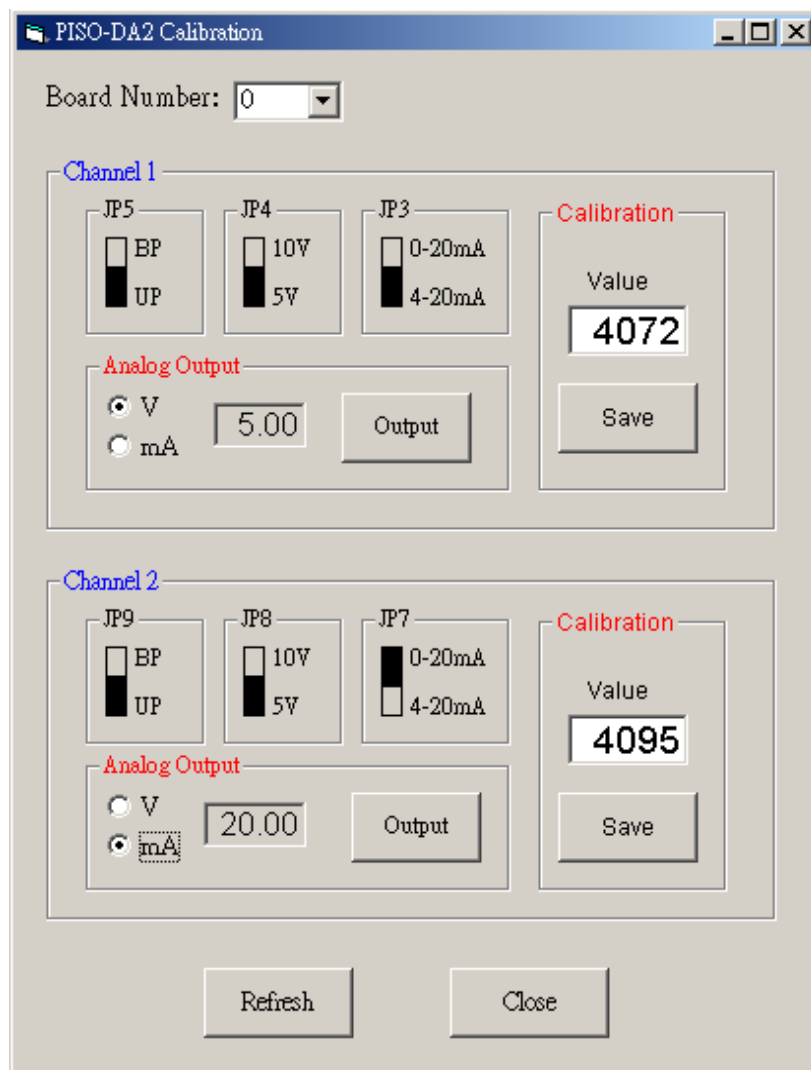

Figure 2.7: Calibration tool interface.
After understanding the calibration mapping address and having precise multi-meter, the calibration procedure for each analog output channel is as the example for calibrating analog channel in 0~10V setting and the calibration interface is shown in Figure 2.7.
- Step 2: Run calibration tool, which is located in “/program files/DAQpro/PISO-DA2/calibration.exe”, to open configuration interface, as shown in Figure 2.7.